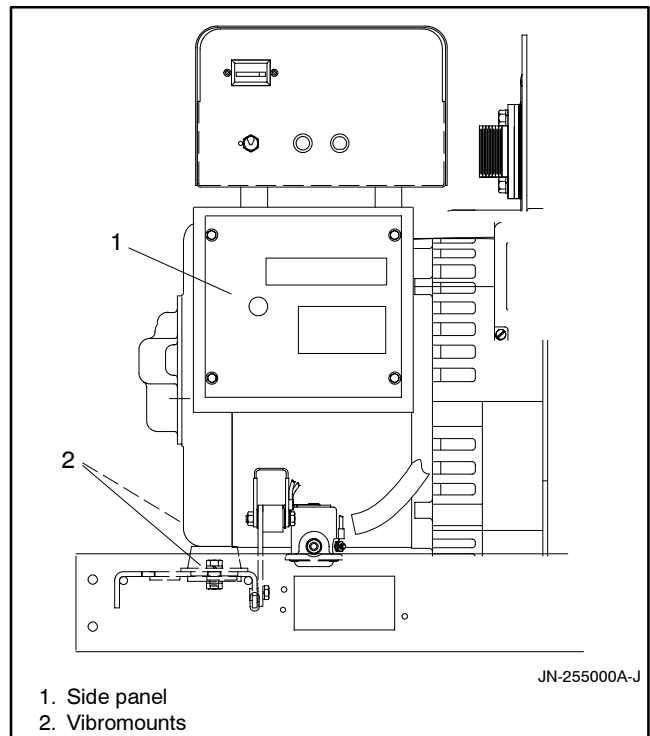

Figure 6-1 Junction Box Side Panels
4. Remove four screws securing junction box side panel. See Figure 6-1. Remove side panel.
7. Remove two bolts securing vibromounts to skid. See Figure 6-1.